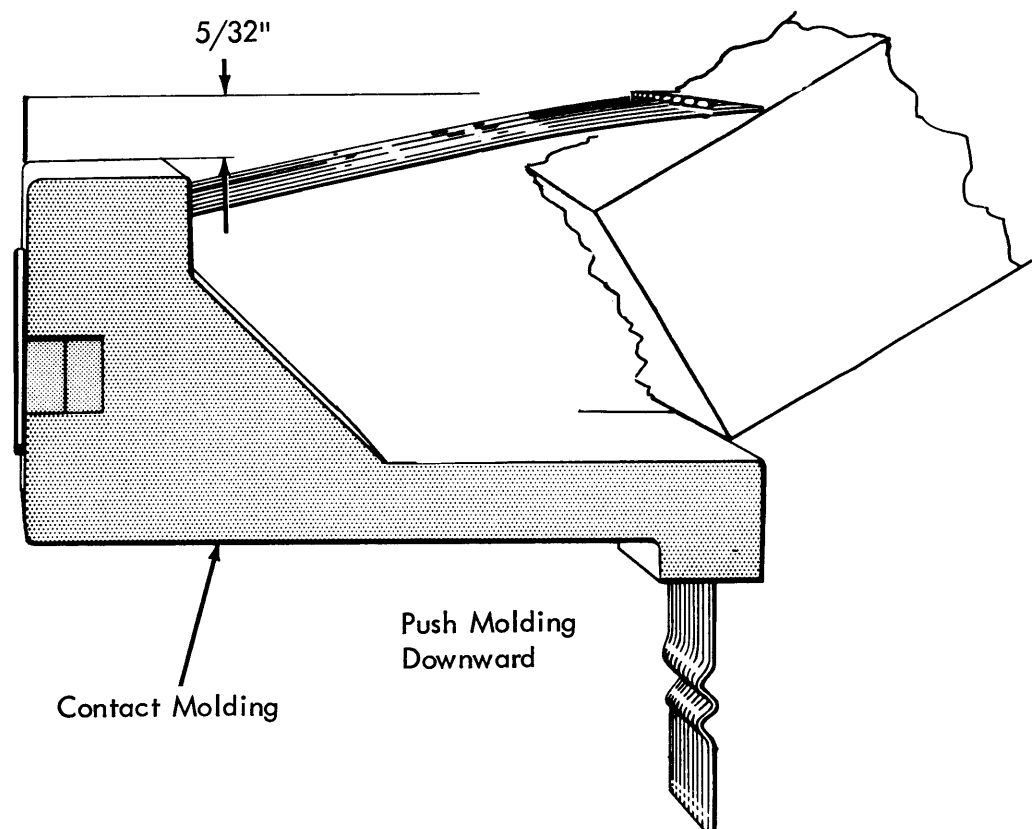

Figure 4-30. Sensing Pin Contact Adjustment
Before installing a new contact molding, pre-form contact straps (Figure 4-30). A reading board is helpful in forming contacts evenly.
1. Form contacts as shown in Figure 4-30.